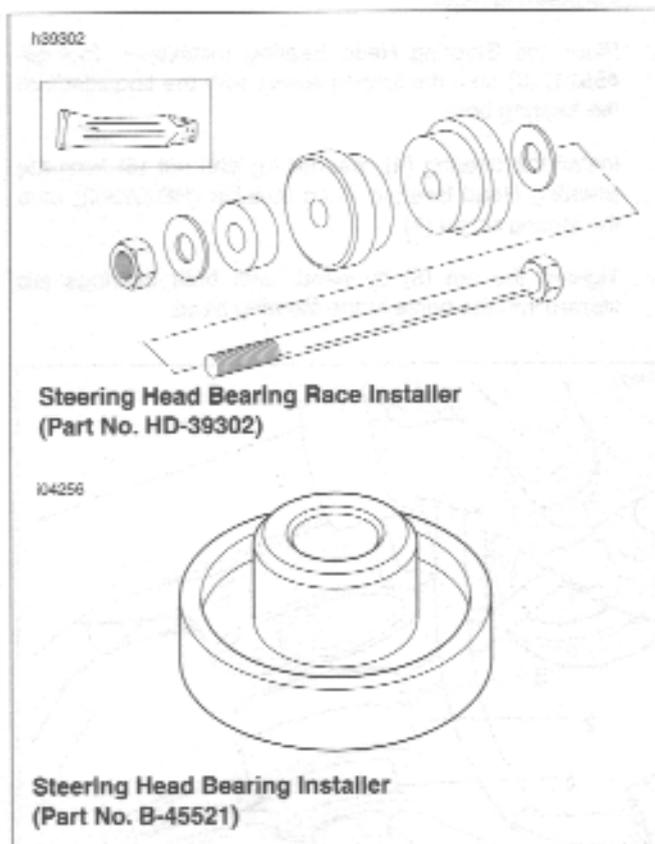

Figure 2-71. Steering Head Bearings Installation Tools
1. See Figure 2-71. Install new upper and lower steering head bearings into the steering stem using STEERING HEAD BEARING RACE INSTALLER (Part No. HD-39302), and the STEERING HEAD BEARING INSTALLER (Part No. B-45521).
- b. See Figure 2-71. Insert the steering head bearing installation tool into the upper bearing, with the shoulder into the bearing bore.